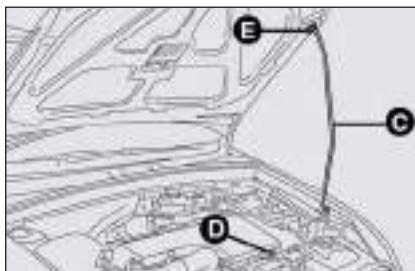

fig. 118
- lift the bonnet and at the same time release the rod **C fig. 118** from the catch **D**, then fit the rod end into the bonnet recess **E**.
TO CLOSE THE BONNET fig. 118